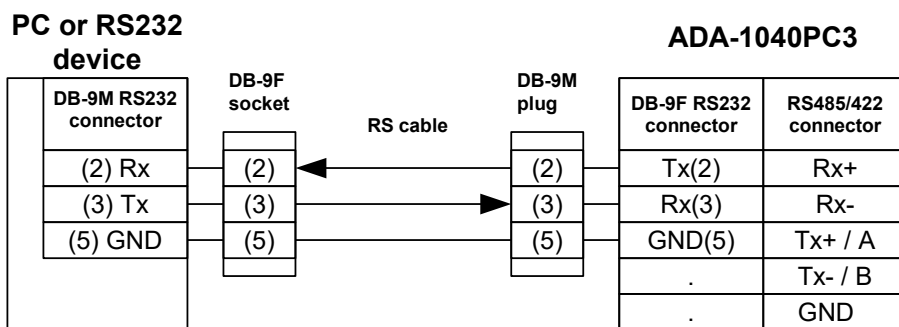

Fig. 4. ADA-1040PC3 connection to PC or RS232 device by the use of the cable.
- RS232 computer port, should be made a cable according to diagram on Fig.4,